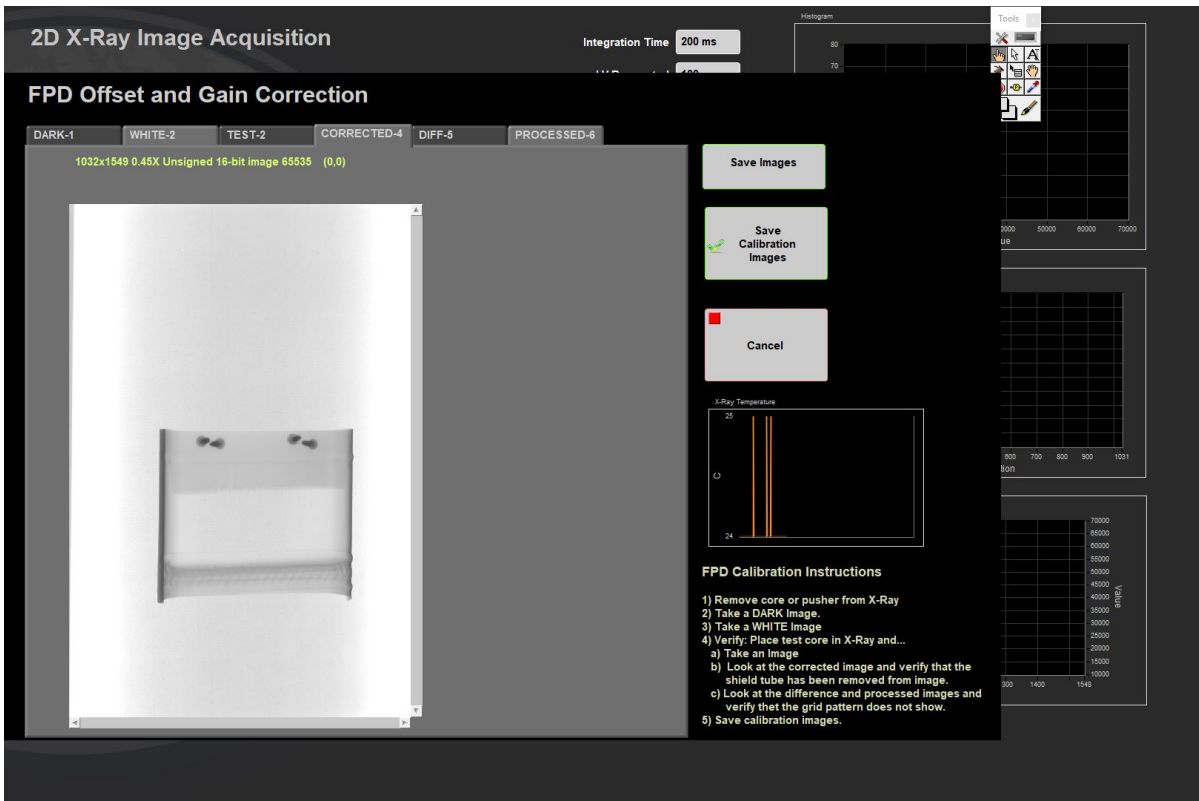

Figure 11. Corrected Image Tab
4. Select tab **CORRECTED-4** (Figure 11).
5. Select the **DIFF-5** tab to view the DIFFERENCE image (Figure 11)